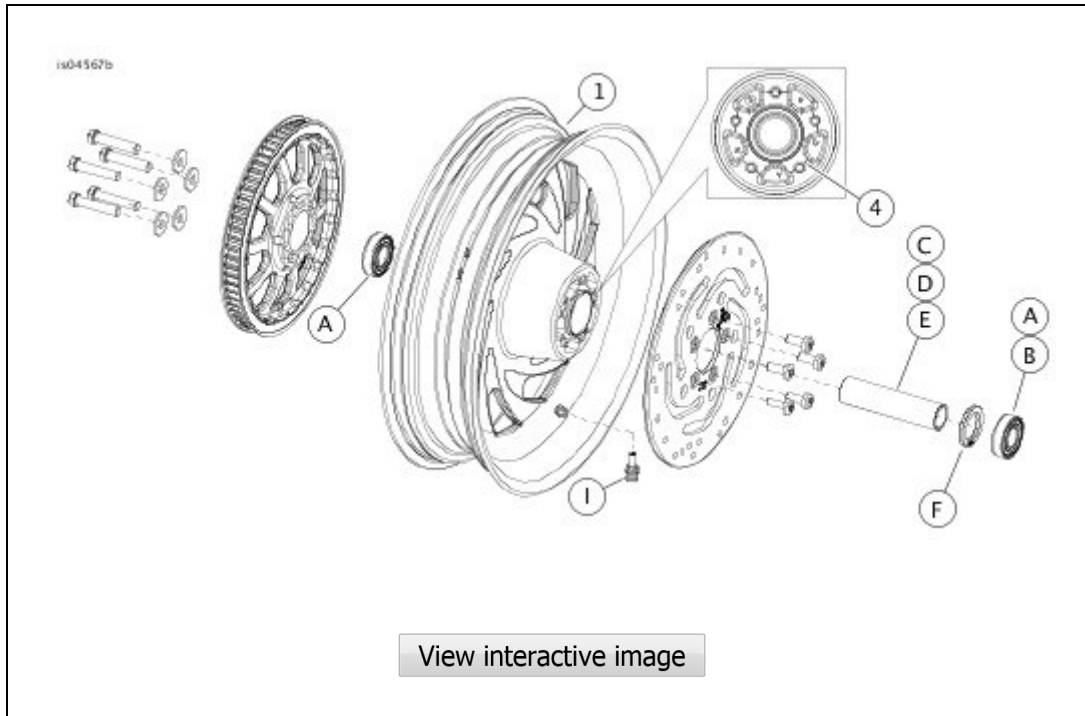

Figure 1. Service Parts: Rear Typhoon Wheels
See **Figure 1** and Service Parts Tables.
2. See **Figure 1**. Install valve stem assembly (I) on wheel. Refer to TIRES in service manual.